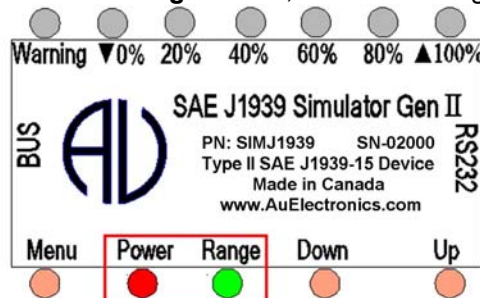

Figure 3-2
- When power on, both **Power** LED and **Range** LED lit, as shown in Figure 3-2.